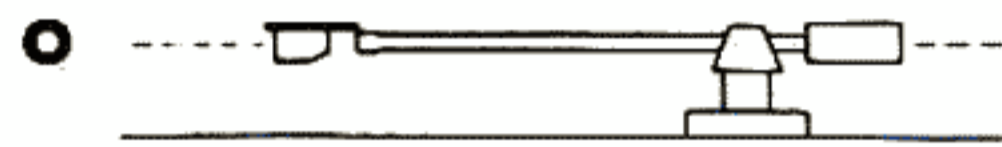

Fig. 6
- 5) Tonearm balance is achieved when (1) the cartridge weight and counterweight cancel each other out; and (2) on release, the tonearm adopts the position shown in fig. 6.